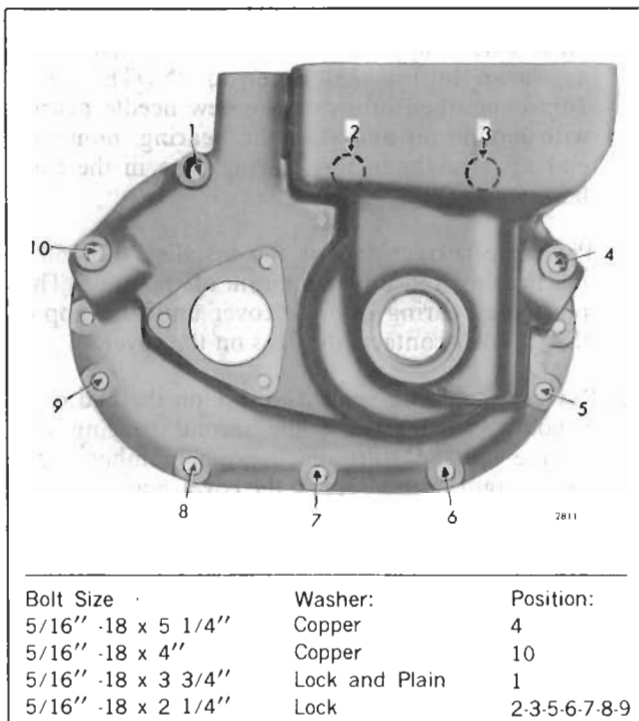

Fig. 24 - Location and Size of Governor Retaining Bolts
6. Refer to Fig. 24 for the location and install the bolts, lock washers, copper washers and plain washer which secure the governor to the blower. Tighten the bolts to 13-17 lb-ft (18-23 Nm) torque.
2. Refer to Fig. 24 for bolt location and install the bolts, lock washers, plain washer and copper washers which secure the governor to the blower. Tighten the bolts to 13-17 lb-ft (18-23 Nm) torque.